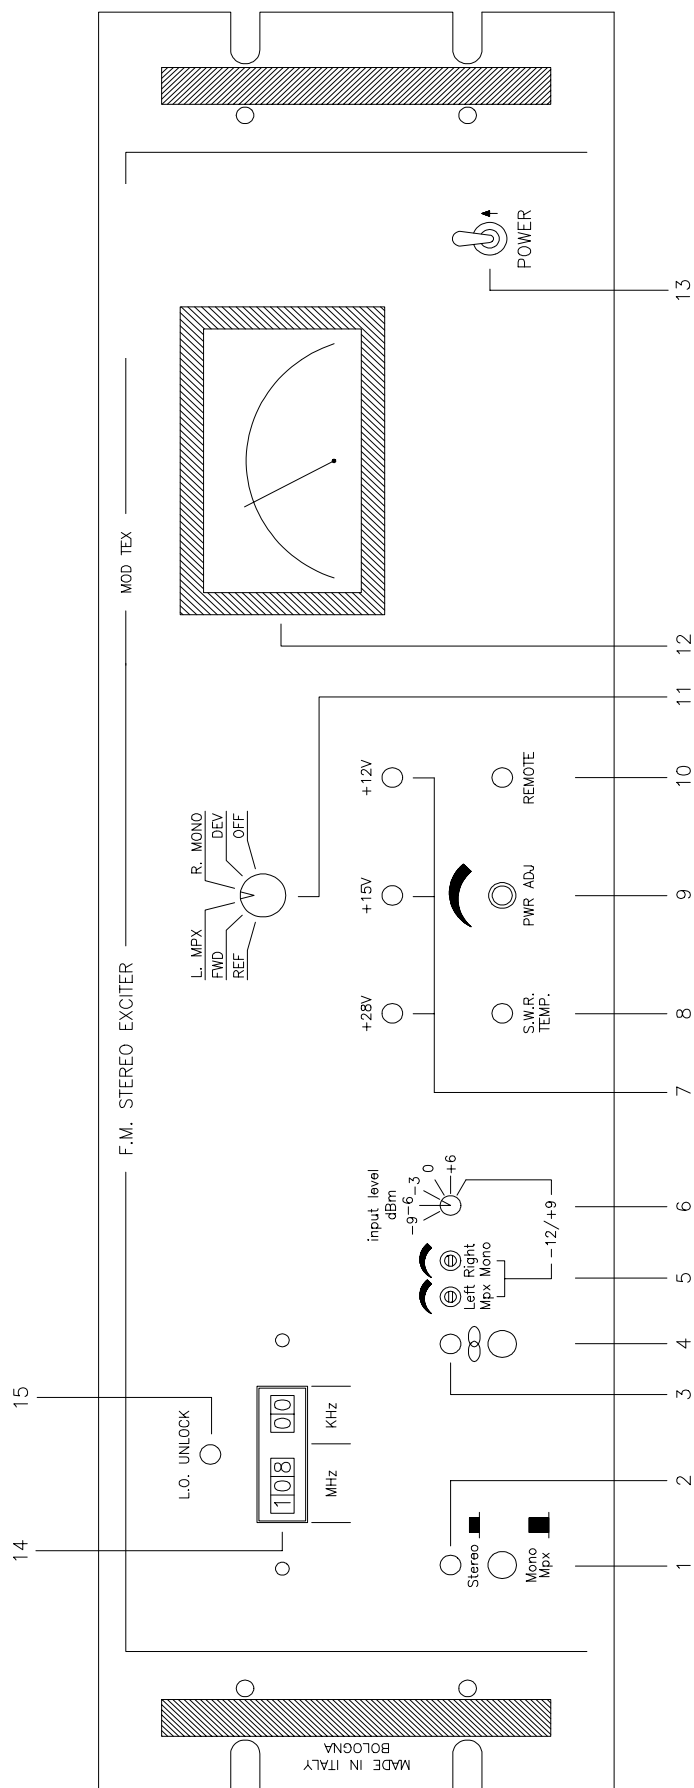
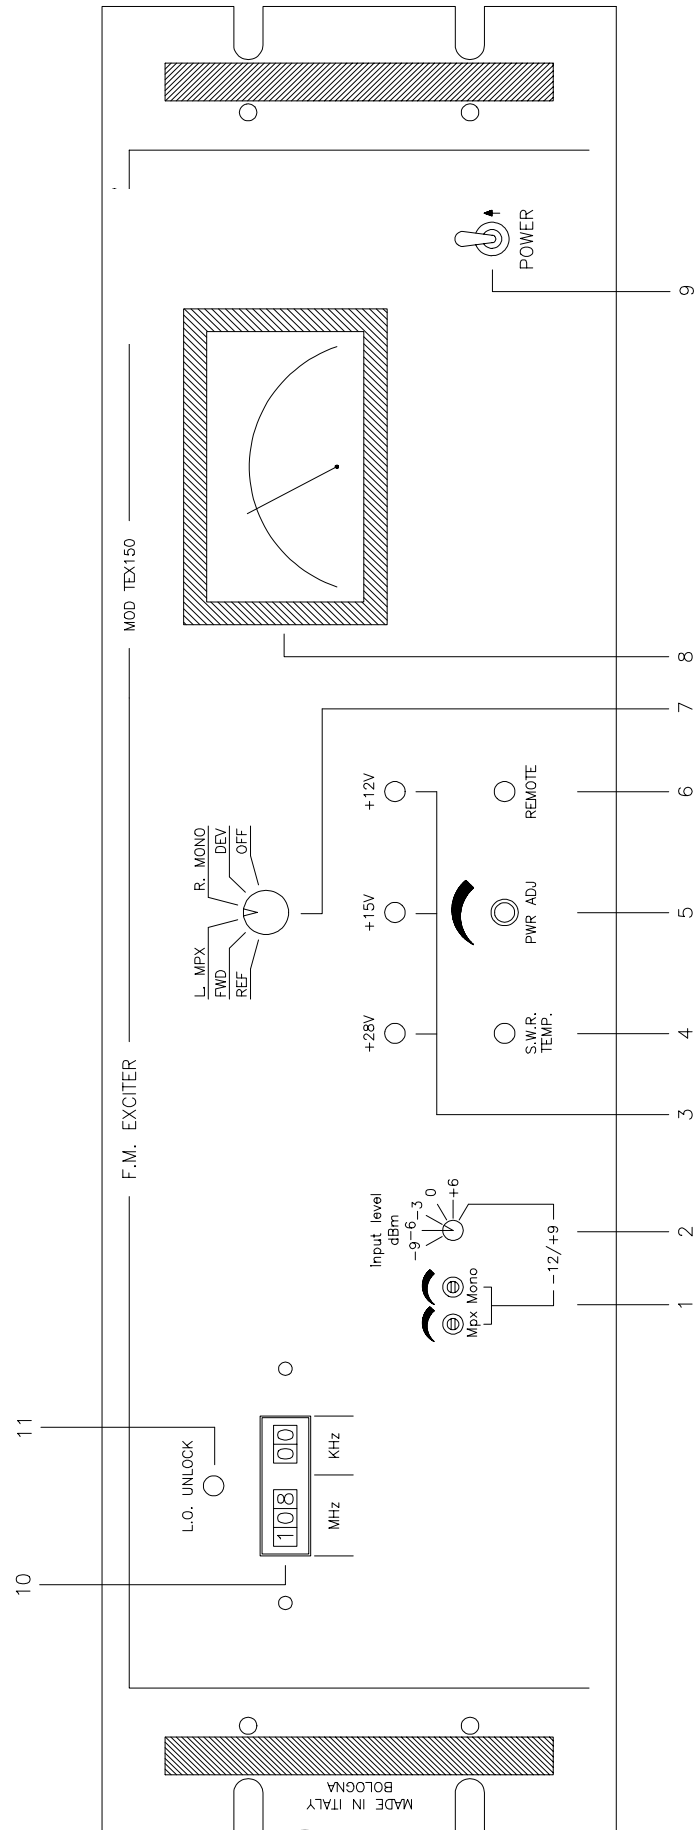

FIG. 1A
FIG. 1B
FRONT PANEL STEREO VERSION VIEW DESCRIPTION (FIG.1A)
FRONT PANEL MONO VERSION VIEW DESCRIPTION (FIG.1B)
2) Now ensure that the PWR ADJ control (9 Fig.1A or 5 Fig.1B) is rotated fully anti-clockwise, using a small screwdriver. N.B. The control is a ten-turn potentiometer so care should be taken to verify the minimum position.
5) Switch the unit's ON/OFF switch (13 Fig.1A or 9 Fig.1B) to the OFF position.
7) Switch the power On switch (13 Fig.1A or 9 Fig.1B) to the ON position and check that the three green internal voltage led (7 Fig.1A or 3 Fig.1B) and the red UNLOCK led (15 Fig.1A or 11 Fig.1B) are all on. Select the desired operating frequency using the corresponding selector. The red UNLOCK led should switch off within 30 seconds, indicating that the oscillator has locked onto the operating frequency. The frequency selector comprises five figures of which the three to the left of the decimal point represent (from left to right) hundreds of MHz, tens of MHz and MHz. The two figures to the right of the decimal point represent (from left to right) hundreds of KHz and tens of KHz.